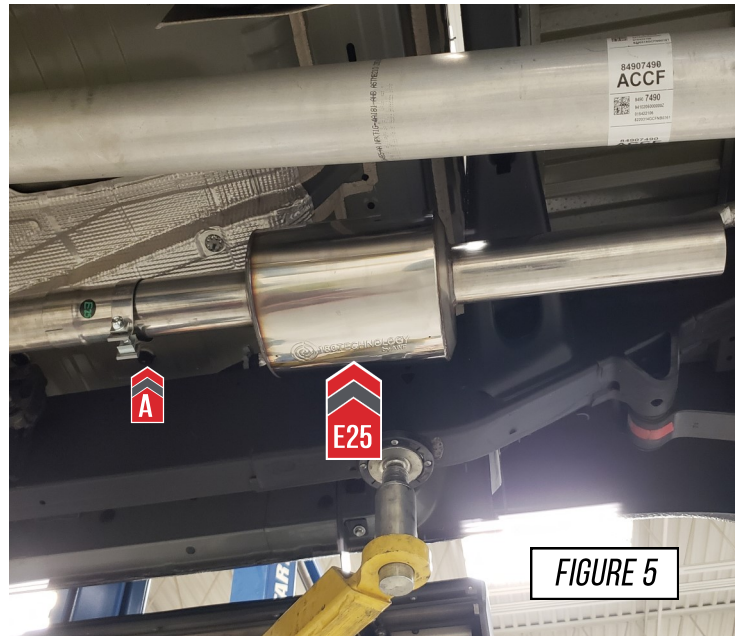

FIGURE 5
Slide one of the provided exhaust clamps onto the end of the pipe (A). Then install your AWE HR5 section (E25), as shown in **Figure 5**.